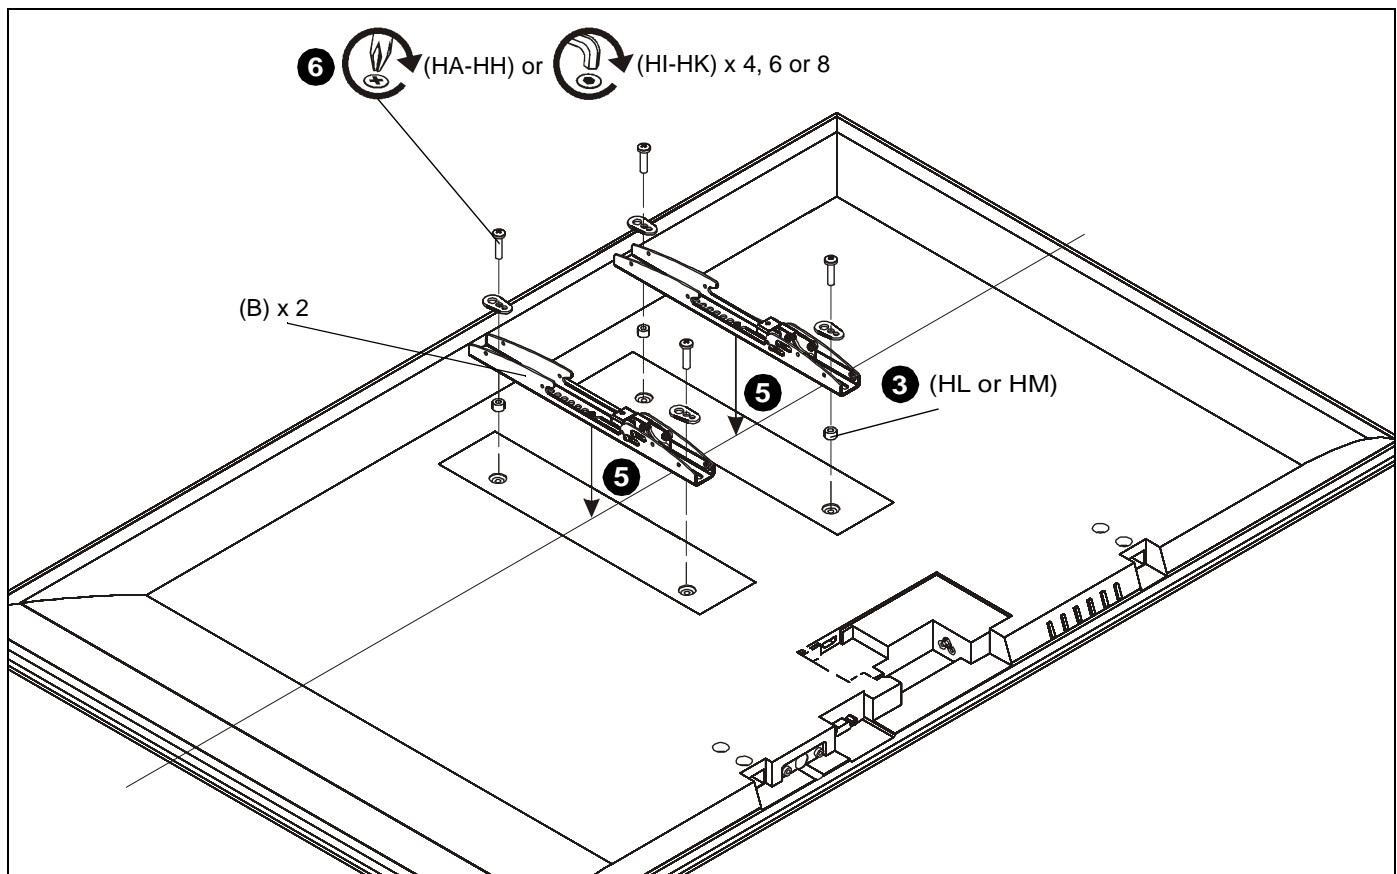

Figure 8
2. Select screw *diameter* by examining hardware (HA-HK) (4mm, 5mm, 6mm or 8mm) and comparing with mounting holes on display. (See Figure 8)
3. Select spacers: (See Figure 8)
- If mounting holes are not recessed and both uprights (B) can lay flat against display, then no spacers are required.
- If mounting holes are recessed, or if protrusions prevent uprights (B) from laying flat, then spacers (HL or HM) must be used.
4. Select screw *length*: (See Figure 8)
- Using your hand, insert **SHORTEST** length screw of selected diameter (HA, HD, HG or HI) through universal washer (HN), uprights (B), selected spacer (HL or HM), into display mounting hole. Do **NOT** thread screw into hole at this time.
- NOTE:** Universal washers (HN) are not needed if using M8 button head cap screws (HI, HJ or HK).
5. Place uprights (B) on display, ensuring: (See Figure 8)
- Center of uprights (B) are as close to the center of the back of display as possible after being installed. Center of bracket is indicated by the diamond-shaped hole.
6. Use selected screws and spacers to install two interface uprights (B) to back of display. (See Figure 8)